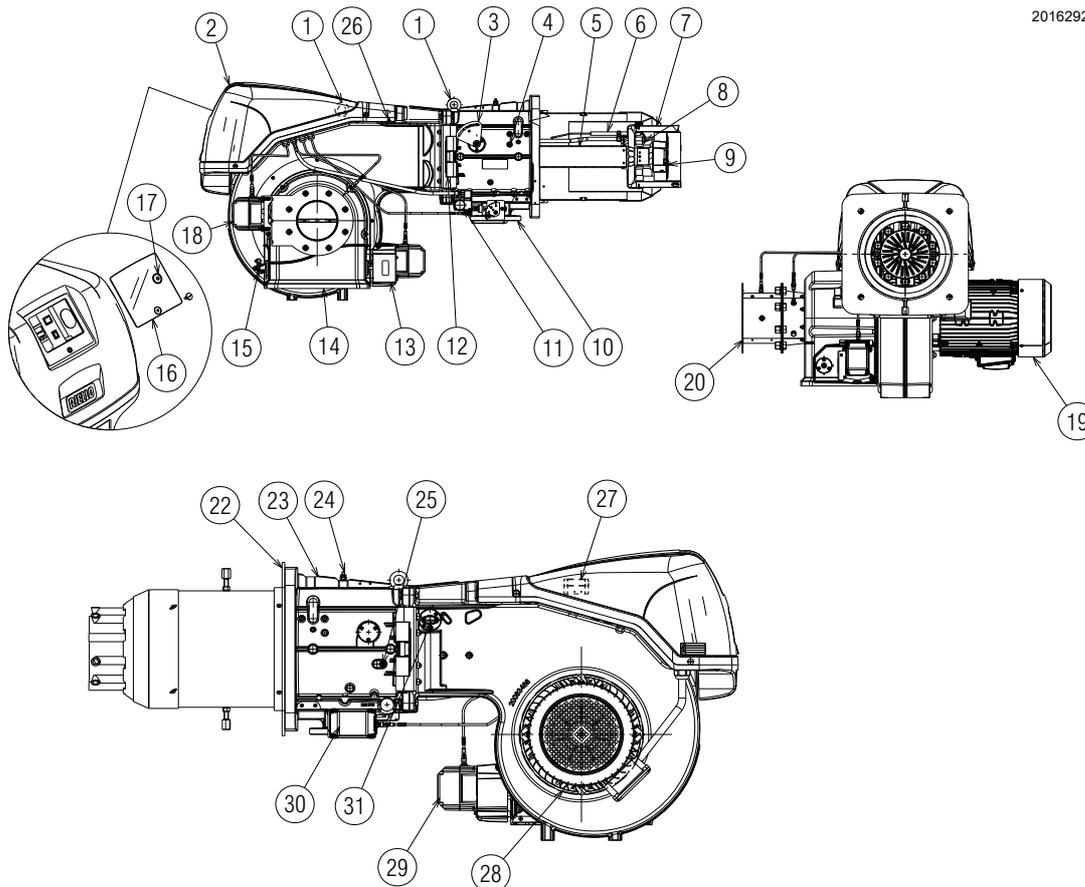

Fig. 4
(1) Reference conditions: Ambient temperature 20°C - Gas temperature 15°C - Barometric pressure 1013 mbar - Altitude 0 m a.s.l.
(2) Pressure at the test point (21)(Fig. 4) with zero pressure in the combustion chamber and at maximum burner output.
(3) Sound pressure measured in manufacturer's combustion laboratory, with burner operating on test boiler and at maximum rated output. The sound power is measured with the "Free Field" method, as per EN 15036, and according to an "Accuracy: Category 3" measuring accuracy, as set out in EN ISO 3746.